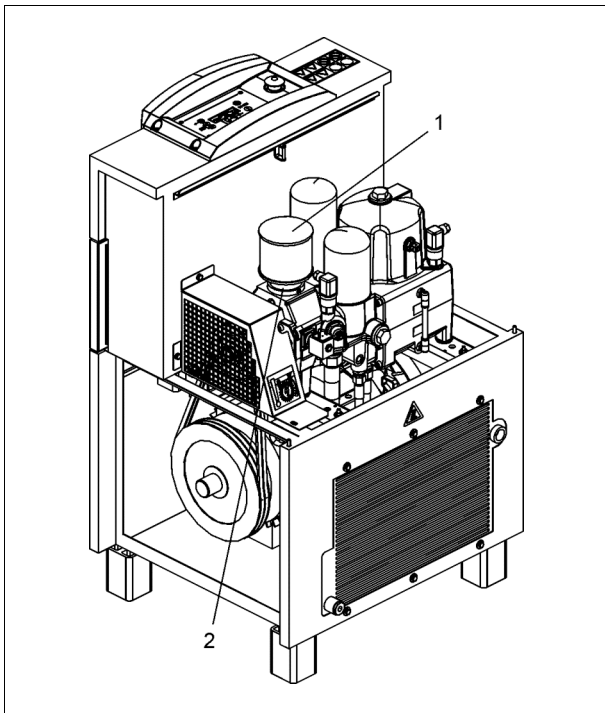

Fig. 20
- Loosen screw at fixing clip ( - 2 - Fig. 20)
- Pull off the air filter ( - 1 - Fig. 20) and replace it with a new one
- Retighten screw at fixing clip ( - 2 - Fig. 20).